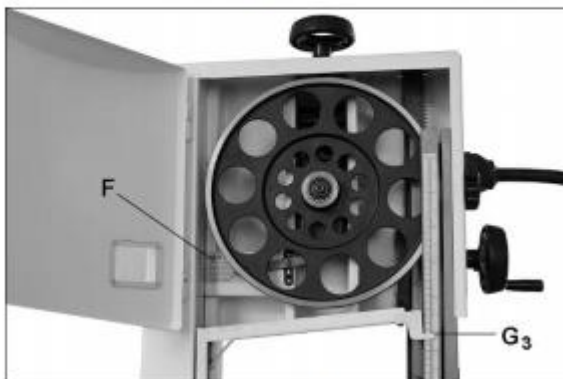

Figure 7-6
3. The gauge (F, Figure 7-6) indicates approximate tension according to blade width in inches. Initially, set blade tension to correspond